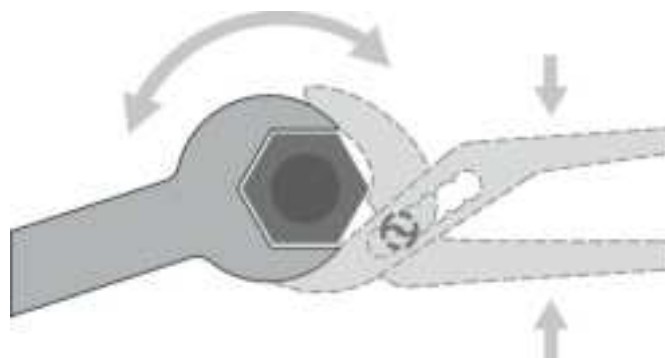

Fig. 32: Using water pump pliers to counter the tightening force
1. ► Hold the threaded pipe tail of the heat exchanger with water pump pliers (Fig. 32 /2).
2. ► Hold the threaded pipe tail with the pliers while you use a spanner (hexagonal profile, Fig. 32 /1) to connect the heat exchanger to the pipework (pipework by others).